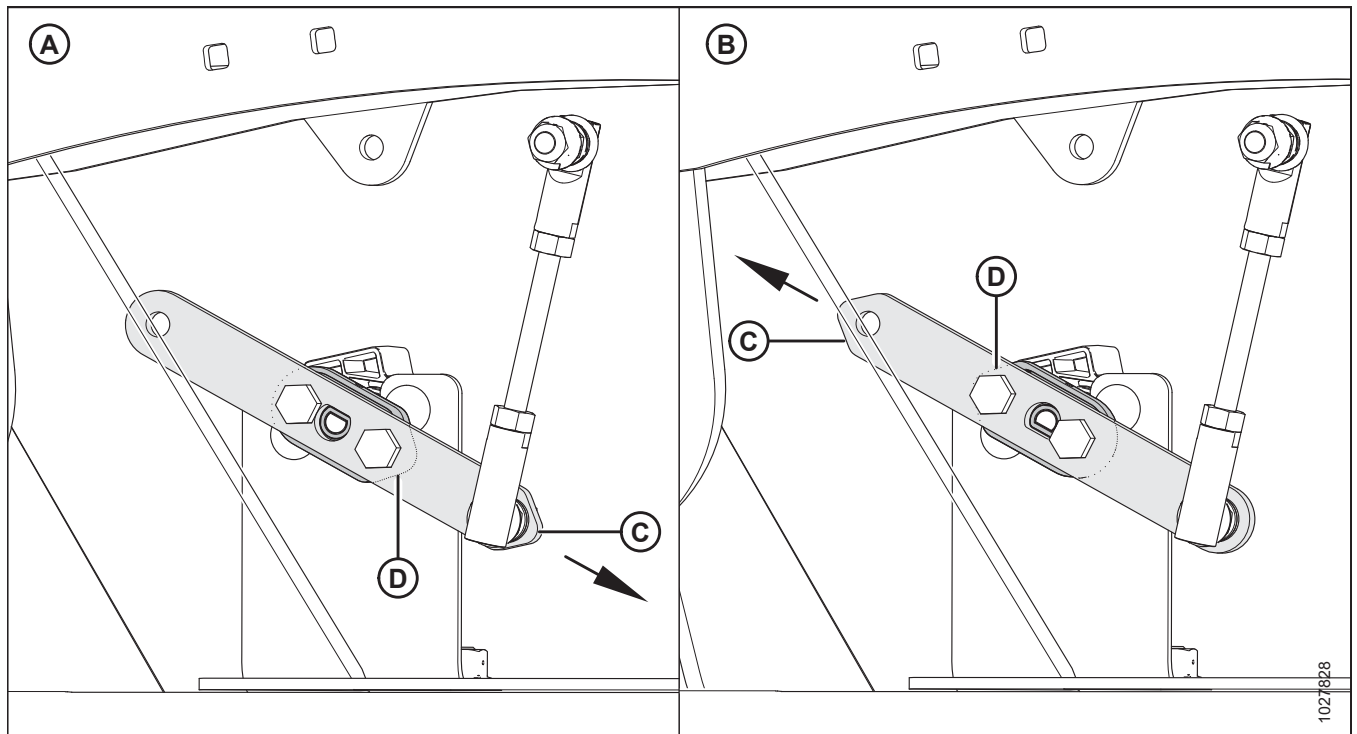

Figure 7.1: Sensor Arm/Pointer Configurations
- For configuration (A), pointer (D) points to the **FRONT** of the header.
- For configuration (B), pointer (D) points to the **REAR** of the header.
2. Check that sensor arm (C) and pointer (D) are configured properly for your machine. Refer to Figure 7.1, page 351.